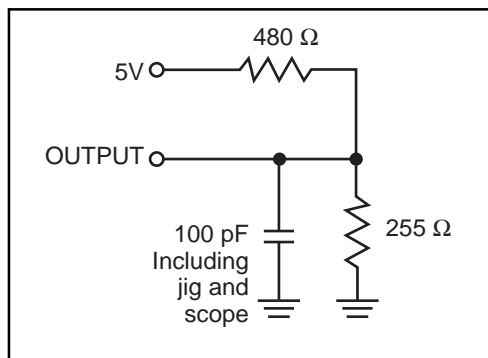

Figure 1a.
- Test conditions assume signal transition times of 5 ns or less, timing reference levels of 1.5V, input pulse levels of 0 to 3.0V and output loading specified in Figure 1a.
Output Load	See Figures 1a and 1b